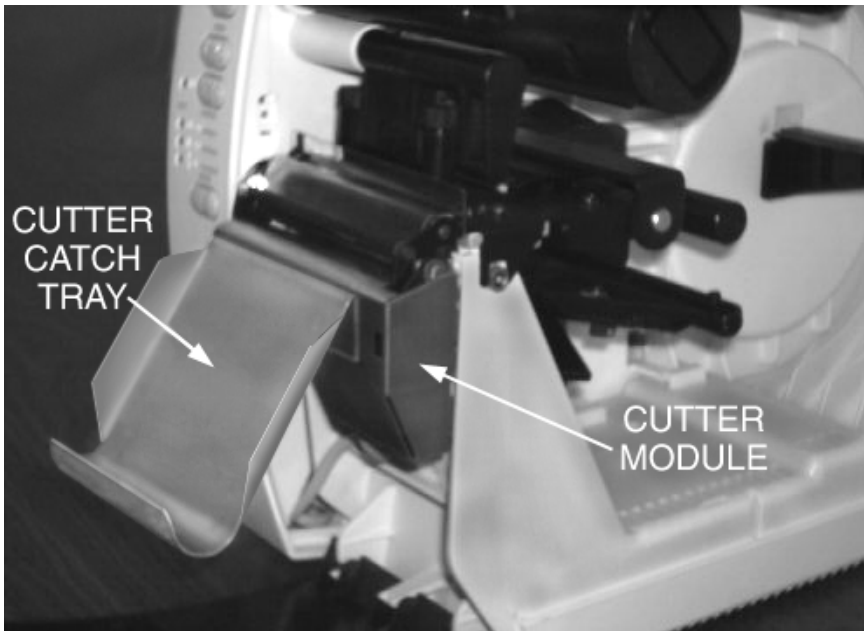

Figure 17 Cutter Module and Catch Tray Location
2. Raise the printer's Media Access Door and lower the printer's Front Door. See Figure 17.